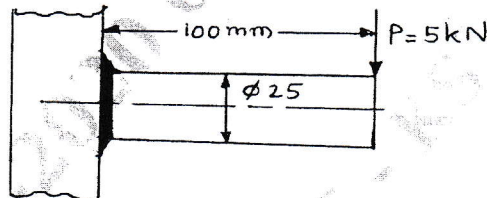

Fig. Q7 (b)
- b. A solid circular shaft 25 mm in diameter is welded to a support by means of a fillet weld as shown in Fig. Q7 (b). Determine the leg dimensions of the weld if the permissible shear stress is  $95 \text{ N/mm}^2$ . (10 Marks)